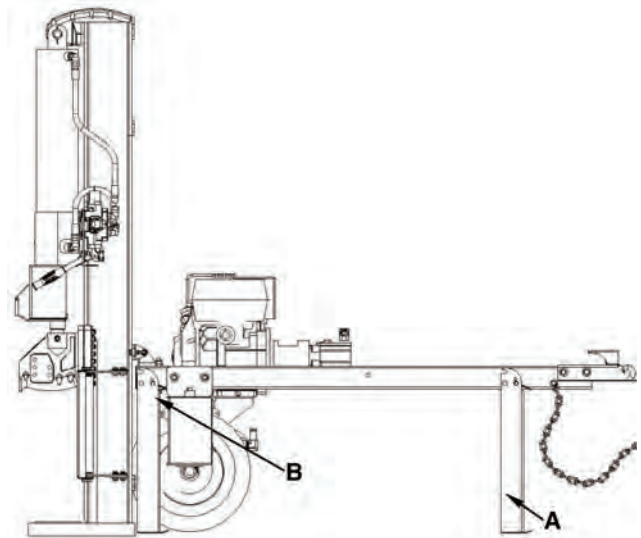

Figure 19
- 1) The rear and front outrigger legs (A & B) Fig.19 must be locked in the down position while in vertical splitting position.